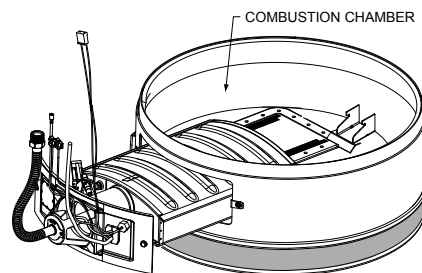

Figure 52 - Combustion chamber
- 2** Use a vacuum cleaner/shop vac to remove all loose debris in the combustion chamber (Figure 52). Use compressed air to clear any dust or debris that may have accumulated in the flame-arrestor.